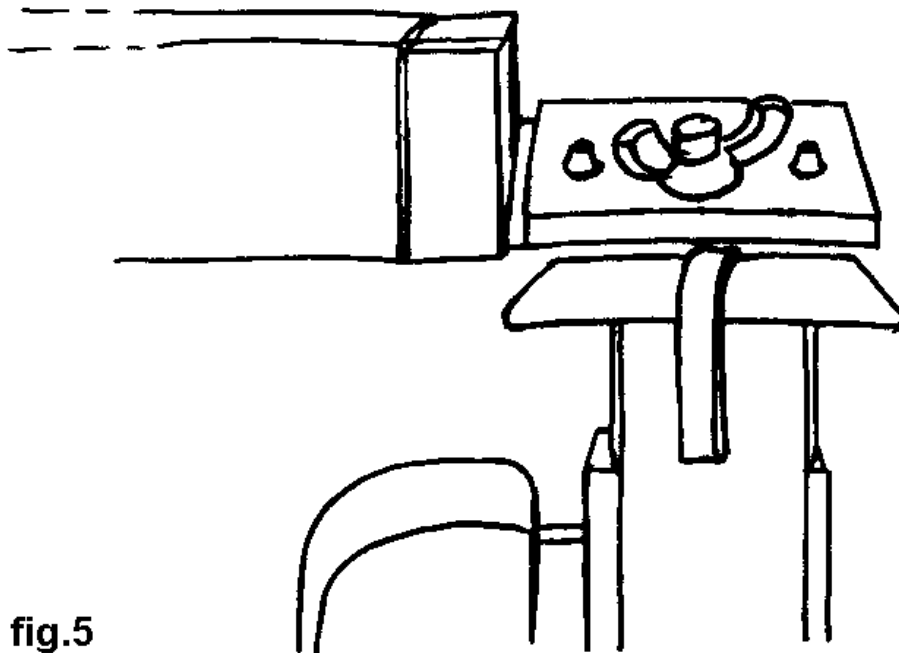

fig.5
- 2 To pare a groove, adhesive tape can be stuck over the centre of the anvil and the leather pulled through so that it removes a thin strip. The position of the groove should be marked on the flesh side of the leather first. See *fig.5*